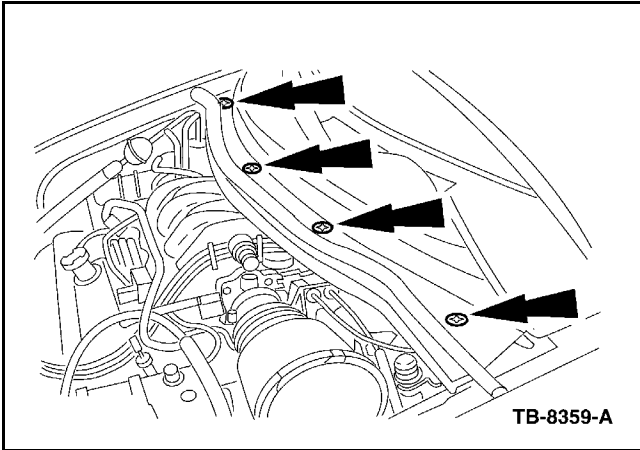

Figure 12 - Article 088-2005-5551
19. Install four (4) new pushpin screw/rivets to secure the upper cowl to the lower cowl. Add Clear Silicone Rubber (TA-32, or equivalent) to the four (4) pushpin screw/rivets to make a watertight seal around them (Figure 12).